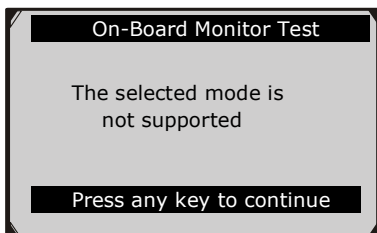

Figure 6.29
- If the vehicle does not support the mode, an advisory message will be displayed on the screen. (Figure 6.29)